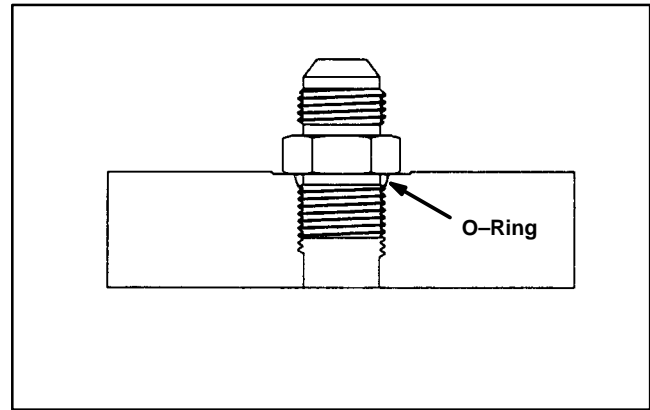

Figure 4
**SAE Straight Thread O-Ring Port – Non-adjustable (Fig. 4)**